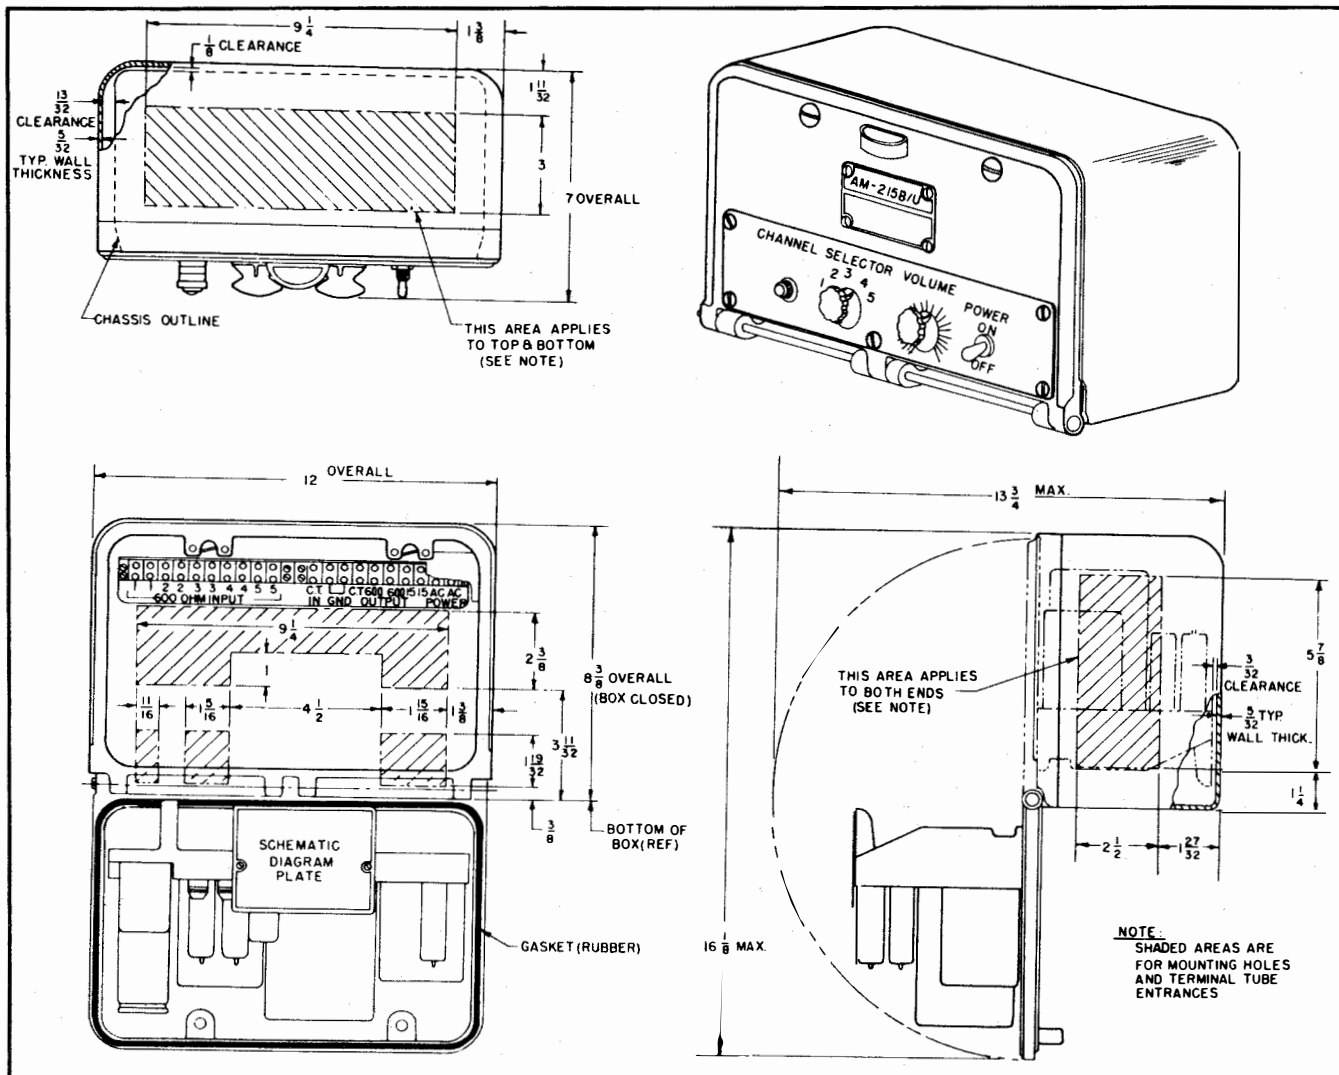

Figure 3-1. Outline and Installation Drawing for A.F. Amplifier AM-215B/U
by means of bolts through the top, back or bottom of the cabinet in the areas shown cross-hatched in figure 3-1. Input, output and power circuits may be brought into the cabinet by means of terminal tubes in any of these shaded areas when the clearance from the chassis is sufficient preferably at the top or near the top close to the connecting terminals.
b. Drill the required holes in the area shown cross-hatched in figure 3-1, taking into consideration the clearance between the chassis and the cabinet. Be careful not to damage the terminal strips. Four 1/4" or 3/8" steel bolts should be used for mounting, placed as far apart as the cross-hatched area and other conditions will permit.